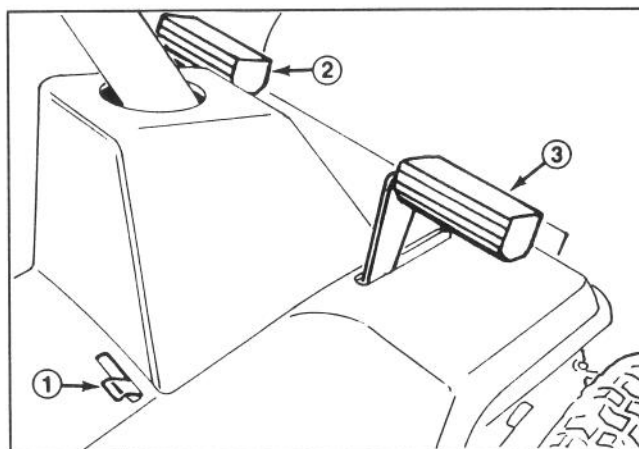

Figure 6
Clutch Pedal (Fig. 6)
Brake Pedal (Fig. 6)
Parking Brake (Fig. 6)
1. Engage the parking brake (Fig. 6): refer to *Using the Parking Brake*.
2. Move the parking brake control to the left and release the brake pedal until it contacts the end of the parking brake lever (Fig. 6).
3. To release the parking brake, depress the brake pedal (Fig. 6), which will allow the parking brake lever to return to its disengaged position. Then release the brake pedal.